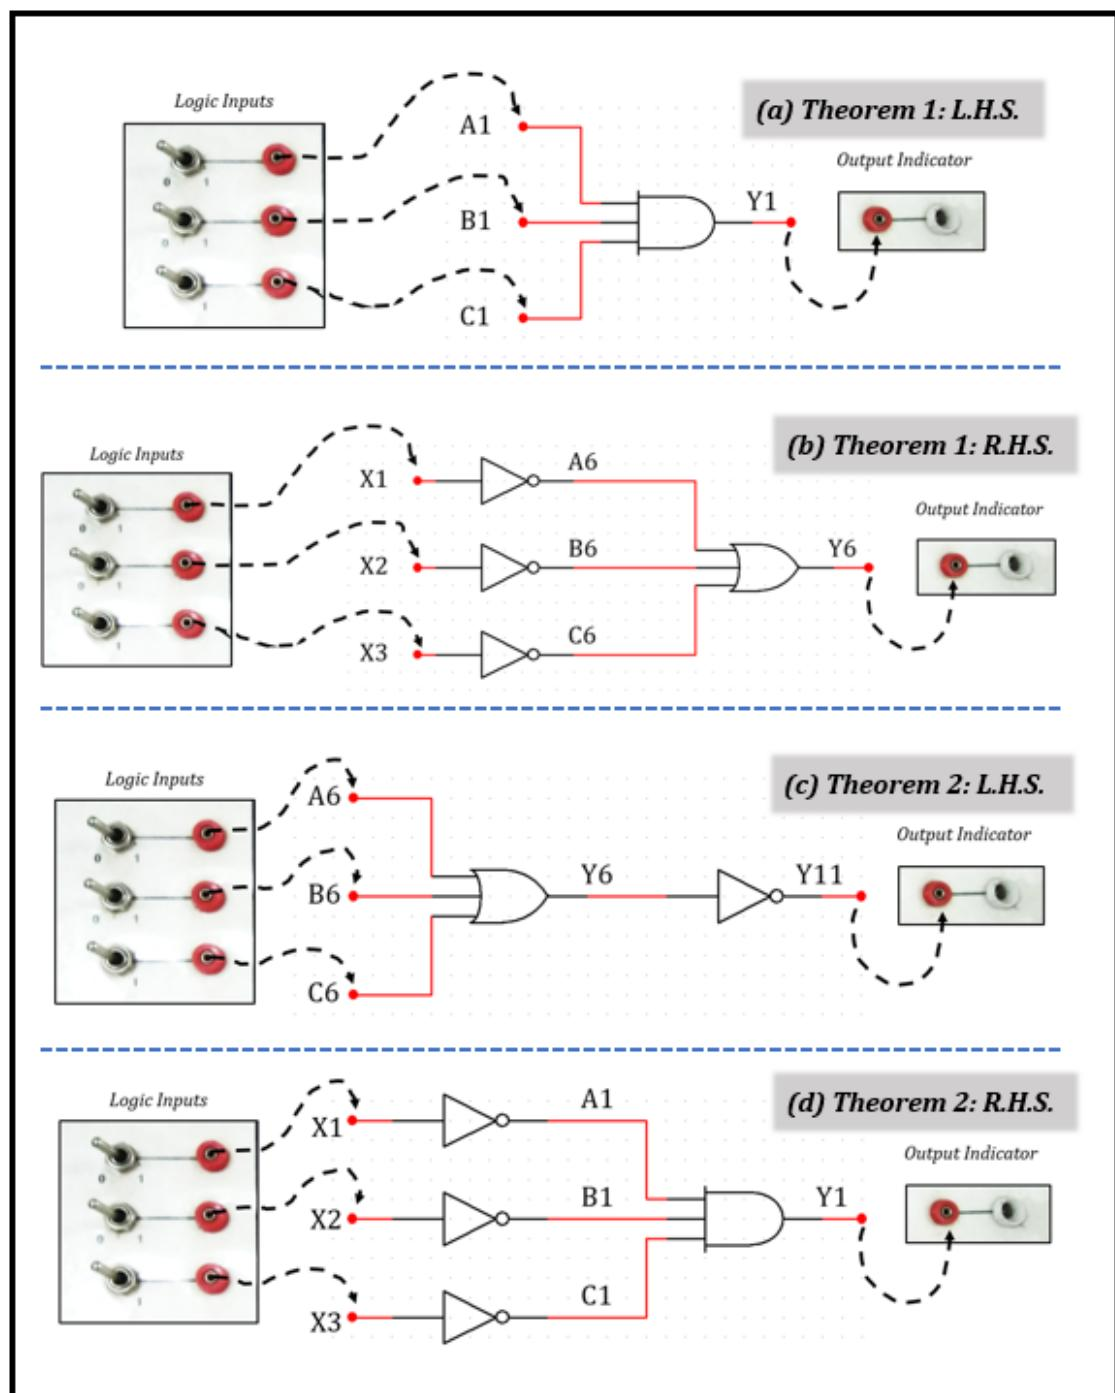

Fig. 2.2: Connection diagram for testing De-Morgan's Theorem.
- In order to test Theorem 1, make all the connections properly as per Fig. 2.2.